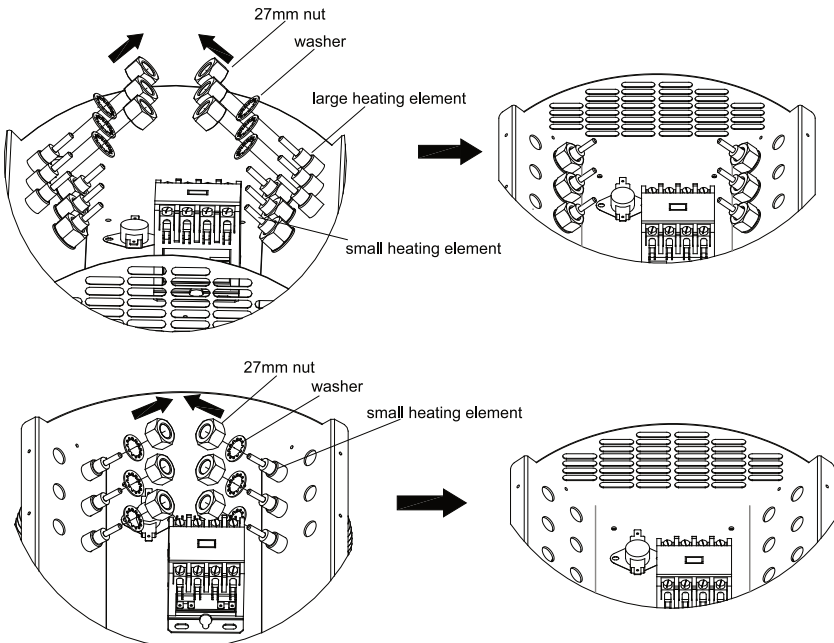

Figure 11
2. After disconnecting the wires, identify which type of heating element (large or small) needs to be replaced. If you are replacing the smaller heating element (797NY1A/797NY2A), you must take off the larger heating element (797NX9A/797NY0A) first. To remove a heating element, remove the 27mm nuts and washers located between the heating element and the unit's housing using a wrench or socket. Repeat this step to remove the smaller heating element. (See Figure 11).